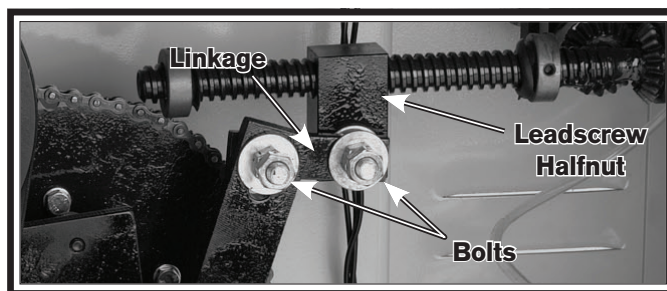

Figure 46. Linkage location and parts.
3. Slide the right-hand leadscrew collar against the support boss and tighten the set screws. If excess backlash still exists at the handwheel, you may have to readjust the pinion gear lash, replace the leadscrew half nut, or replace worn bolts or linkage (**Figure 46**).